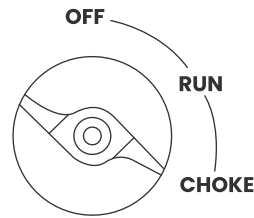

Fig.8
- 1 Turn the engine/fuel switch to "CHOKE" position (see Fig.8).